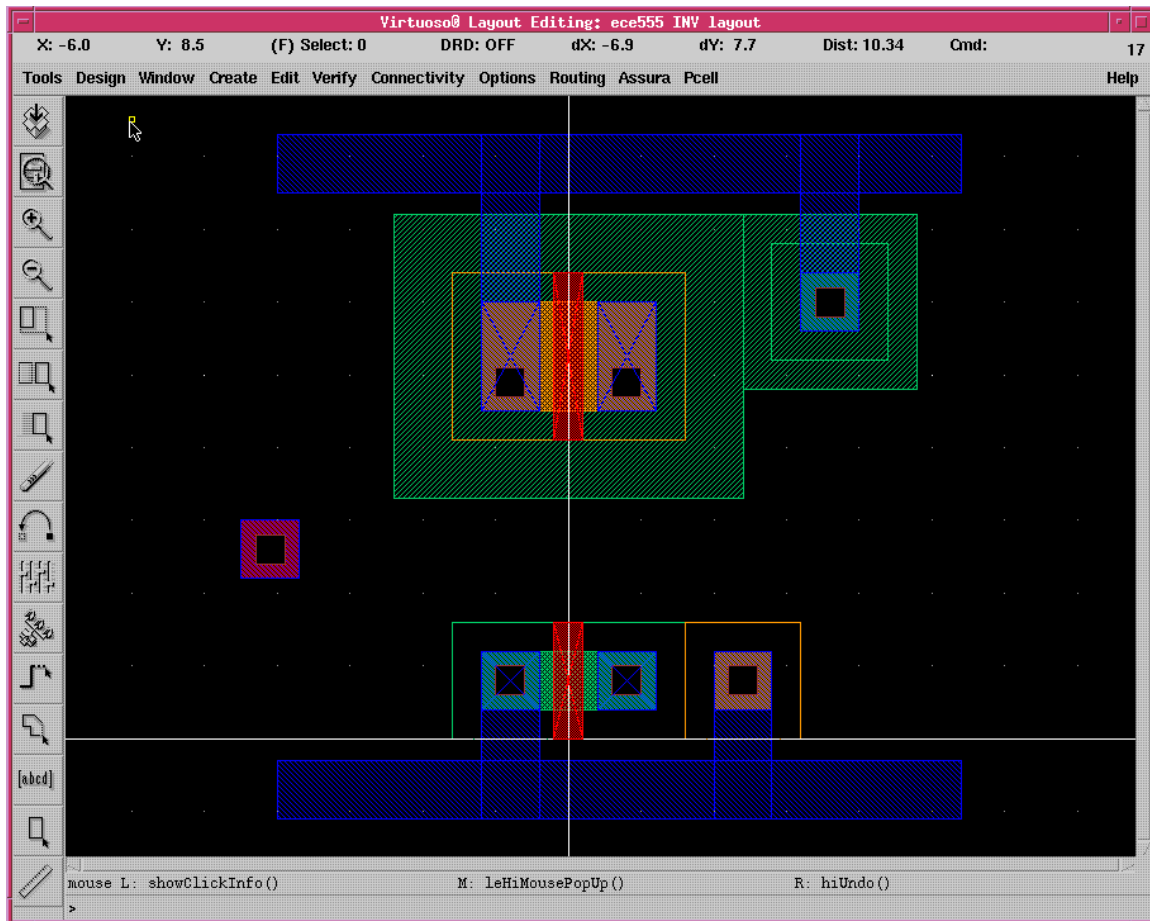

Fig. 10. Ground connection to ptap and source of nmos
- Add metal 1(drw) to ptap and source of the nmos for gnd!, as in Fig. 10.